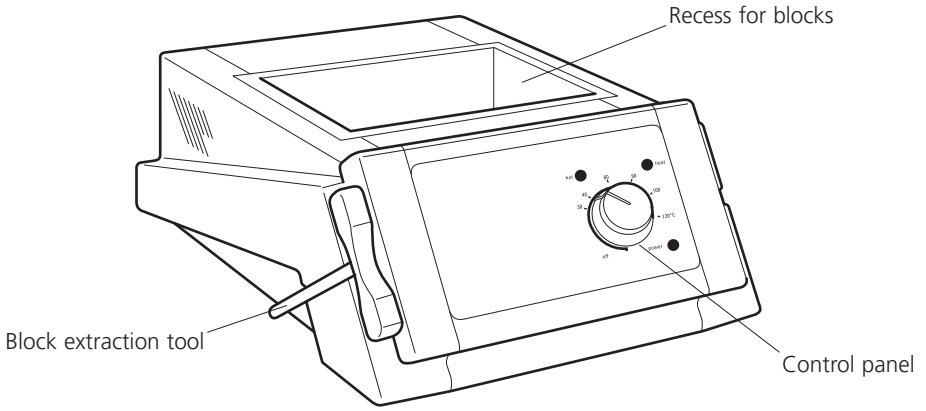

Figure 1: Front view
The blocks are fitted into the recess in the top of the instrument (see figure 1) and heated from below. All blocks are fully interchangeable and blocks for different sizes of container may be used in a block heater at the same time.
3. Carefully place the appropriate number of aluminium blocks into the recess in the top of the instrument – see figure 1.
5. Fit safety cover if required. This may simply rest on the top of the block heater or be hinged by using the screws provided. These should be located in the holes at the top rear of the block heater (see figure1).